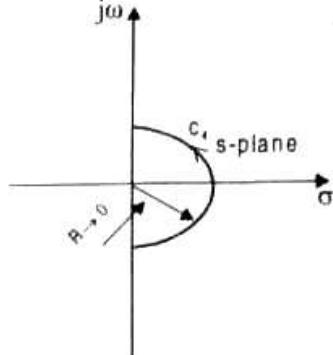
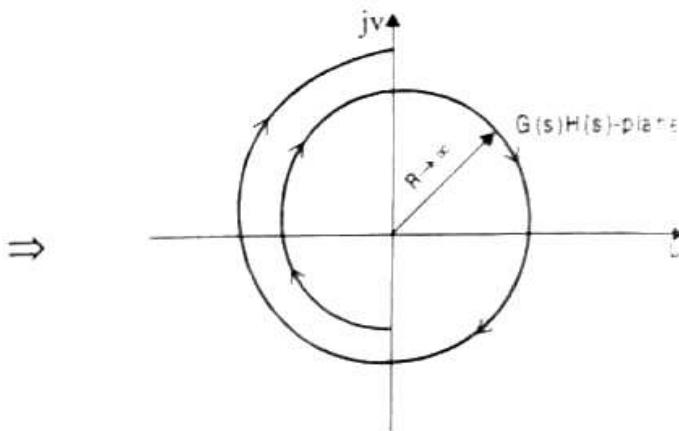

Fig 4.14.8 : Section C_4 in s-plane
Fig 4.14.9 : Mapping of section C_4 in $G(s)H(s)$ -plane
From the equations (6) and (7) we can say that section C_4 in s-plane (fig 4.14.8.) is mapped as a circular arc of infinite radius with argument (phase) varying from $+3\pi/2$ to $-3\pi/2$ as shown in fig 4.14.9.